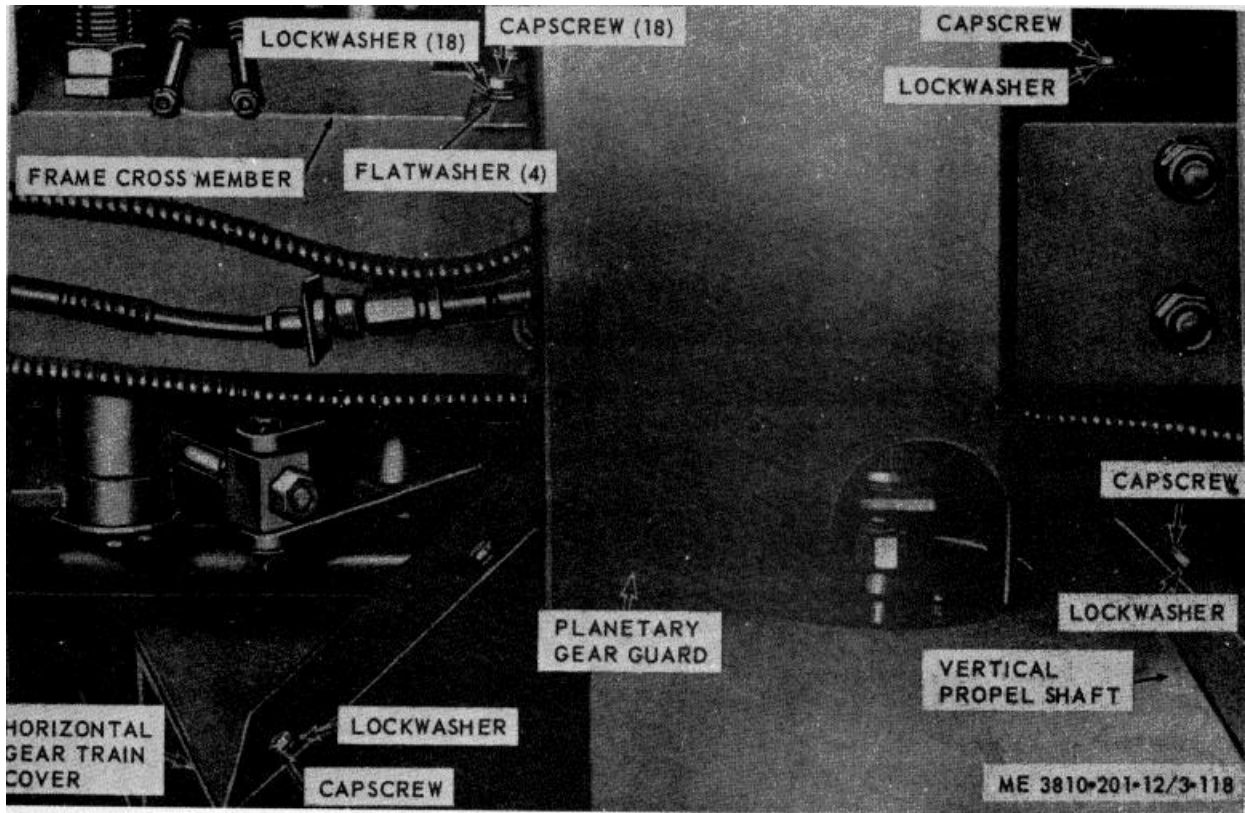

Figure 3-118. Vertical propel shaft guard, planetary gear guard, and horizontal gear train cover, removal and installation.
d. Vertical Propel Shaft Guard, Removal and Installation. Refer to figure 3-118 and remove vertical propel shaft guard. Install in reverse order.
e. Planetary Gear Guard, Removal and Installation. Refer to figure 3-118 and remove planetary gear guard. Install in reverse order.
f. Horizontal Gear Train Corer, Removal and Installation. Refer to figure 3-118 and remove horizontal gear train cover. Install in reverse order.